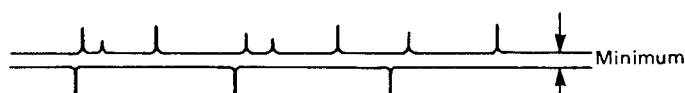

Figure 59.
2. Observe the output at TP401 using an oscilloscope (external trigger TP5705) and adjust R415 (line noise canceller control) so that the noise is spread evenly and not tilted as shown in Fig. 59.